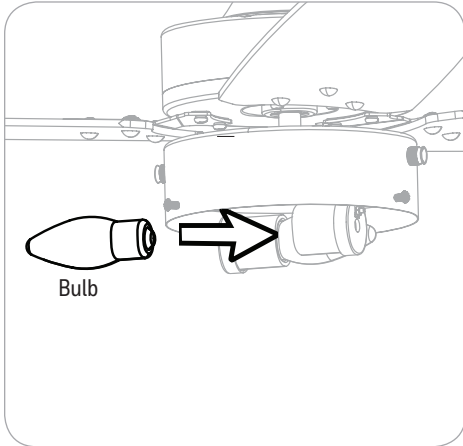

Figure 5.7
7. Install the two E26-base LED bulbs (Figure 5.7).